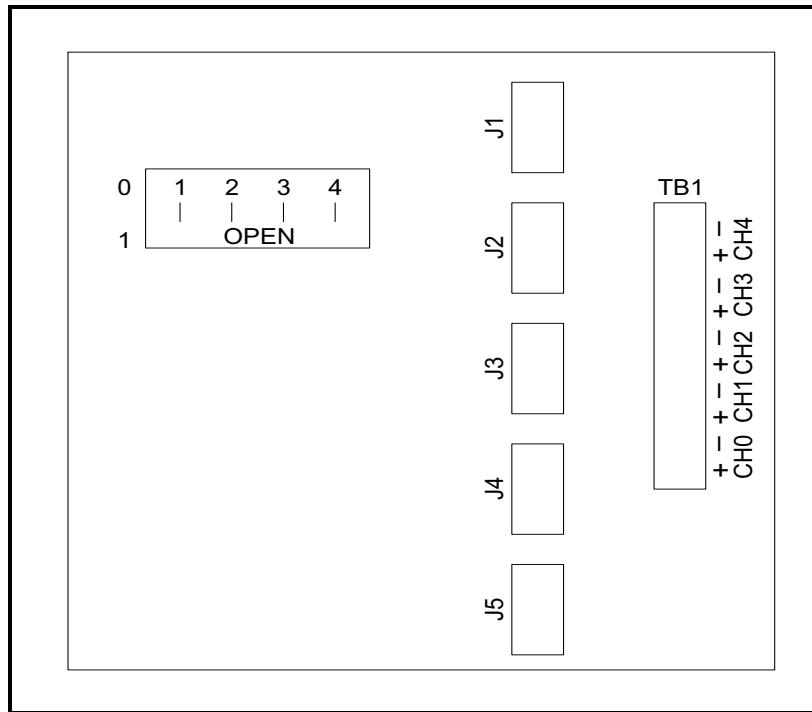

Figure 37: Analog Output Card
Each card supports five analog channels (0-4), and has a selectable card number (0-4). It provides four individually isolated current or voltage outputs: 0-5V, 0-10V, 1-5mA, and 4-20mA (see Figure 37 below).
**Connector TB1:** Wire the analog output device to the 10-pin plug provided with the connector, and reconnect the plug to pins. Leads include output device (+) and ground (-). Figure 37 above shows the connector with a wired plug.